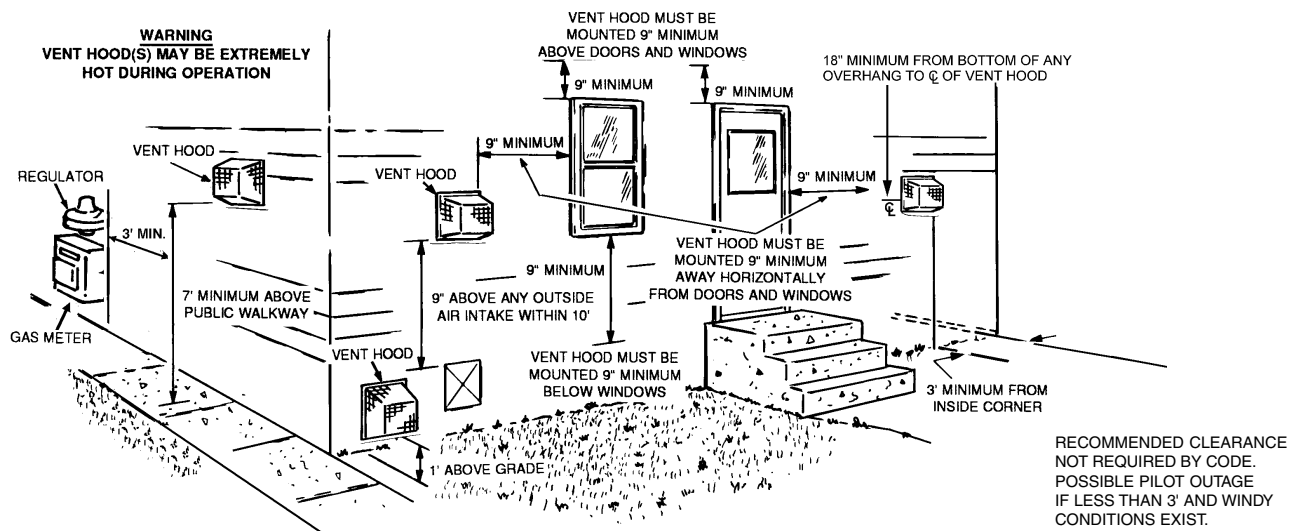

FIGURE 3
1. The vent terminals of a direct vent system shall be not less than 7 feet above grade when located adjacent to public walkways (Fig. 3).
2. A venting system shall terminate at least 9 inches above any forced air inlet located within 10 feet (Fig. 3).